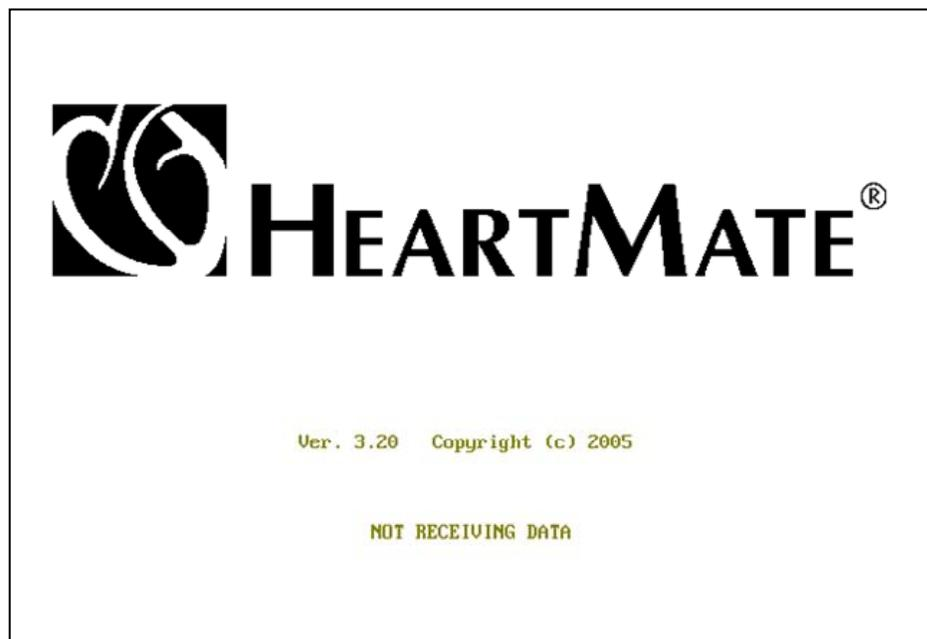

Figure 3: HeartMate II System Monitor not receiving data
- 3 Connect the System Monitor to the back panel “Display” connector, and turn it on. When System Monitor initialization is complete, the flashing “NOT RECEIVING DATA” message will appear at the bottom of the screen, indicating that the System Monitor is not yet linked to the System Controller (Figure 3).